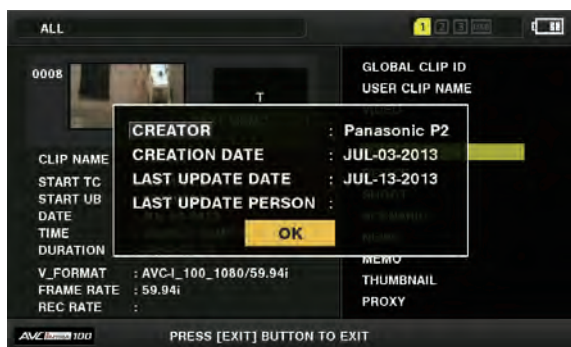

Fig. 1
**2** Place the cursor on the item to be modified using the control stick. (Fig. 1)